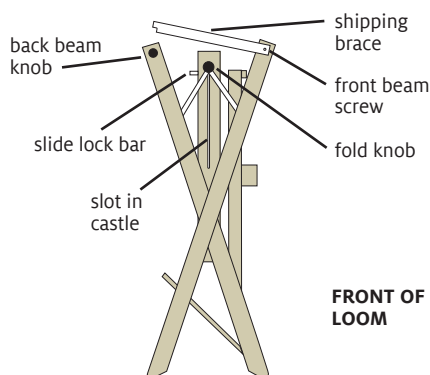

FIGURE 1: UNPACKING AND UNFOLDING THE LOOM
2. Remove the front beam: unscrew the front beam screws and barrel nuts holding it in place—see Figure 1. Take the front beam completely off the loom. (The loom ships with the front extension facing inward to prevent damage.)
5. Slightly loosen the black fold knobs on each castle side (Figure 1). Generally, a single turn will do.